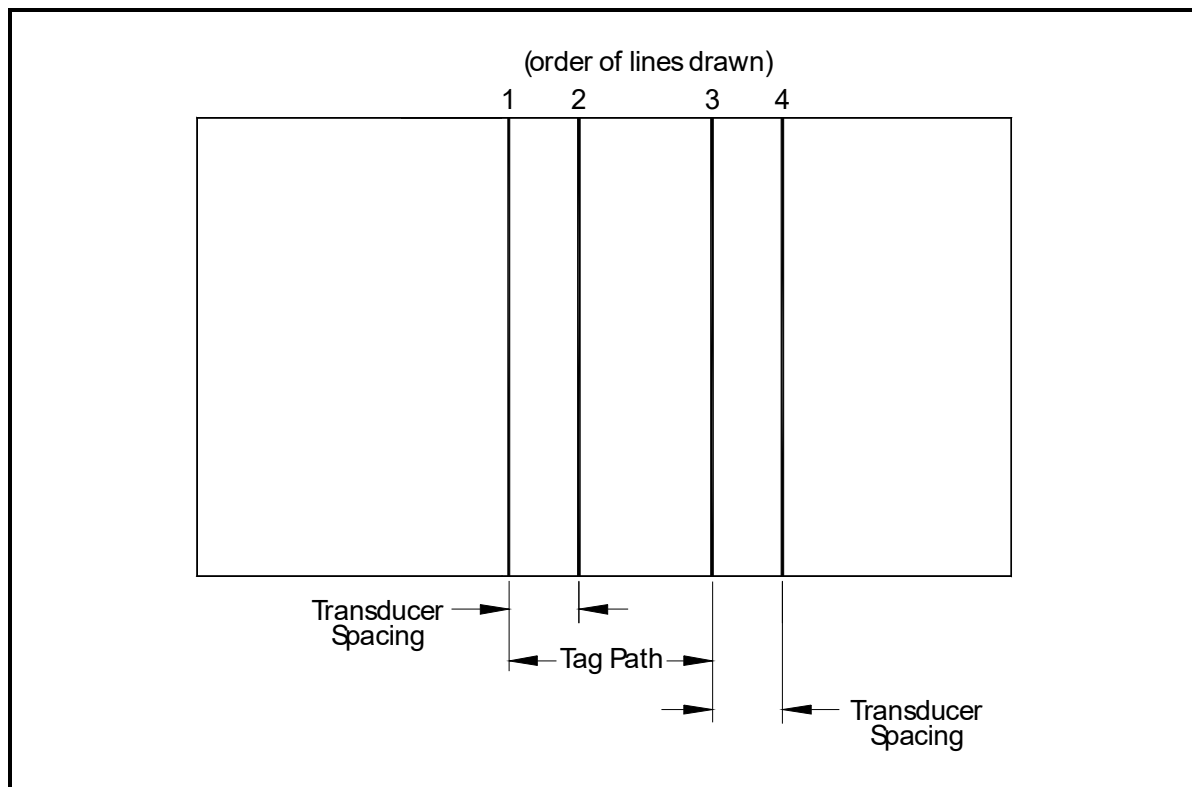
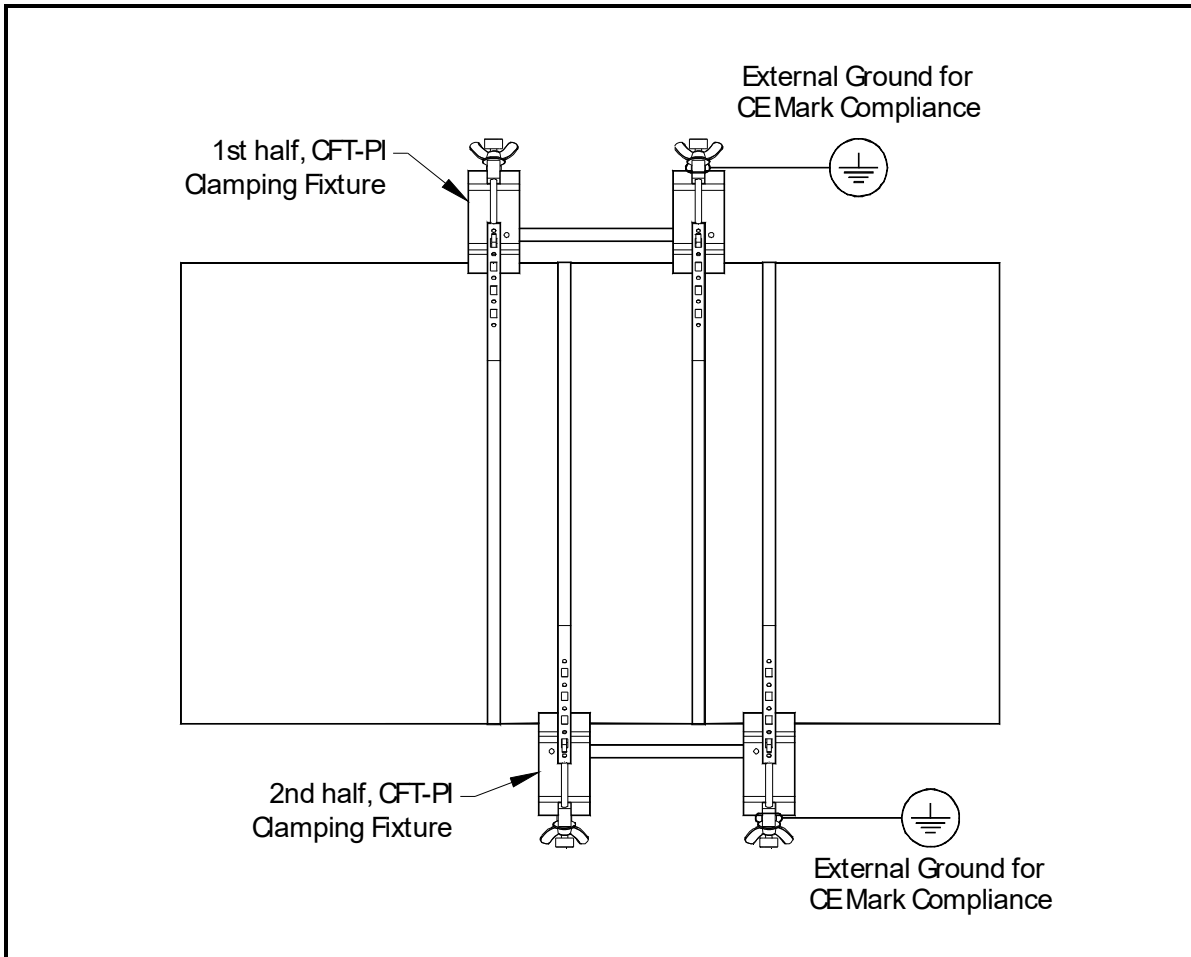

Figure 5: CFT-PI Clamping Fixture, Lines Drawn for Installation
Figure 6: CFT-PI Clamping Fixture, Order of Installation (top view of pipe)
Refer to Figure 5 below and Figure 6 on page 18 and mount the CFT-PI fixture on the pipe.
The pipe should now look like Figure 5 below.
6. Mount the other half of the fixture on the opposite side of the pipe. The clamping fixture should now look like Figure 6 below.
Proper grounding of the clamping fixture (using the grounding lugs provided) is required, to prevent the possibility of electric shock and to meet CE Mark compliance (see Figure 6 below).